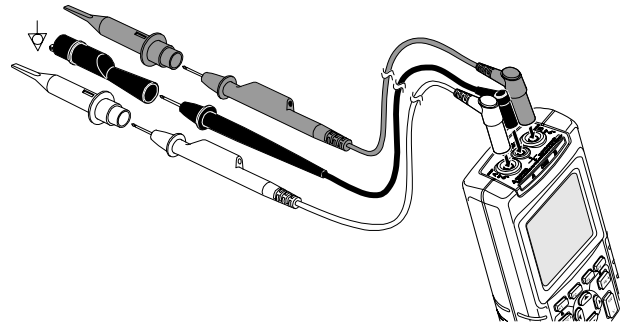

Figure 3-3. Grounding with Unshielded Ground Lead
- Use the unshielded black ground lead to COM (common) for Ohm (Ω), Continuity, Diode, and Capacitance measurements. (See Figure 3-3.)